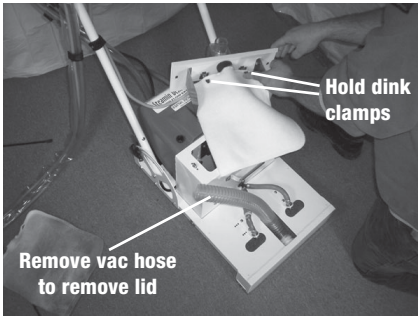
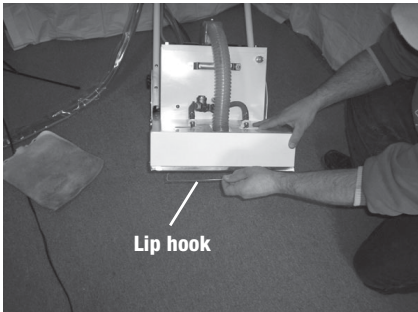
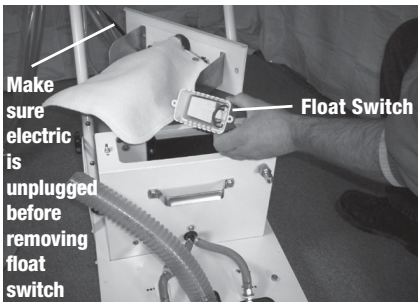
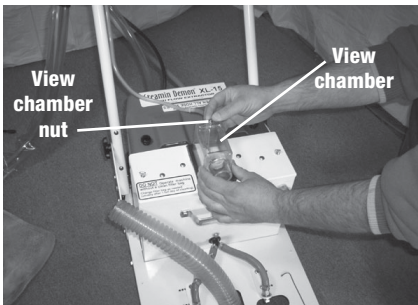

Figure 2: Installing filter bag
Figure 3: Cleaning vacuum shoe
Figure 4A: Float switch removed from recovery tank
Figure 4B: View chamber
A. Cleaning the Machine- To ensure proper machine performance you must either at the end or the beginning of each day replace the filter bag (fig. 2) and clean the vacuum shoe (fig. 3). Once a week you need to clean the float switch (fig. 4A), and the view chamber (fig. 4B). If you are cleaning carpet with greasy or sandy soil, you may need to change the filter bag more often. *Filter bags have to be replaced once they are completely blocked. You can tell this by the pitch of the vacuum motor. When you hear the rpms of the vac motor go up and stay up, immediately replace filter.* Additional instructions on how to clean these areas can be found on page 8.